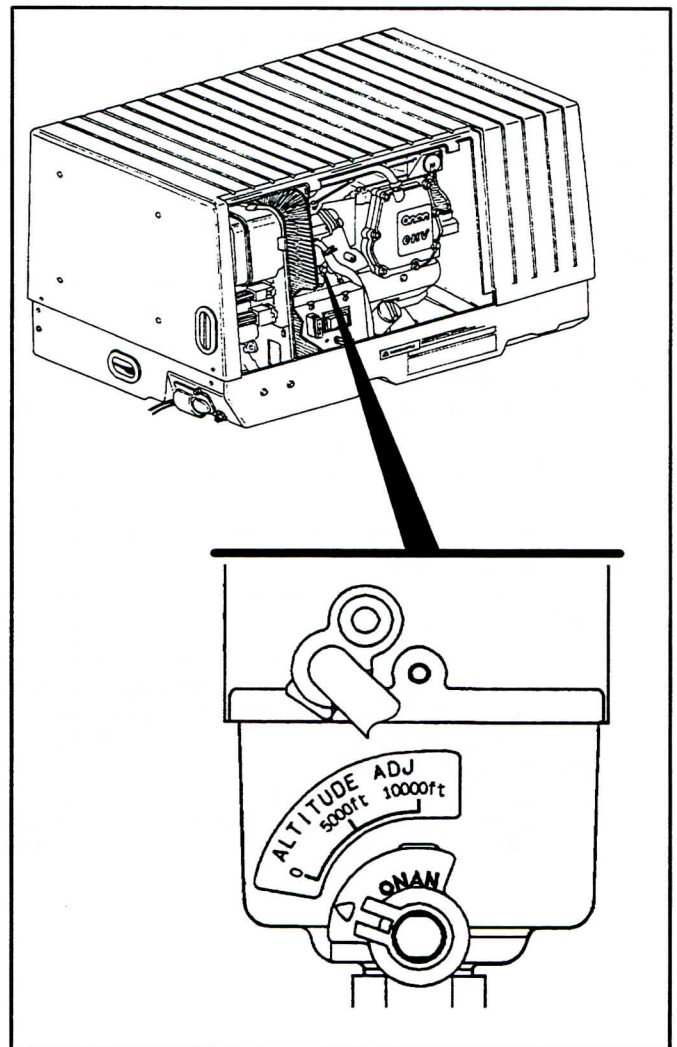

FIGURE 6. ALTITUDE ADJUST KNOB
2. Set the altitude adjust knob (Figure 6) for your altitude (gasoline models only).
5. Set the altitude adjust knob (Figure 6) for your altitude (gasoline models only).
For best fuel economy and genset operation set the carburetor altitude adjust knob (Figure 6) for your altitude (gasoline models only). Look at road maps, travel atlases and road signs for altitude. (See *Powering Equipment* for information on how altitude affects the maximum power output of the genset.)